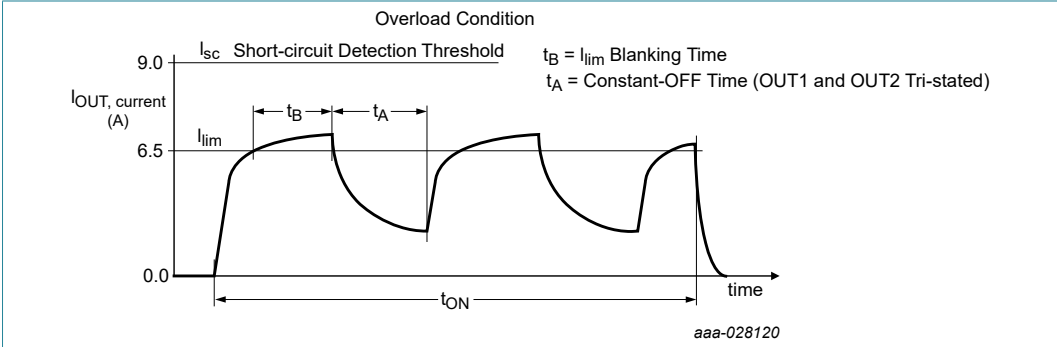

Figure 8. Current limit blanking time and constant-off time
- [8] Load currents ramping up to the current regulation threshold become limited at the I_{LIM} value (see Figure 8). The short-circuit currents possess a di/dt that ramps up to the I_{SC} or I_{SCL} threshold during the I_{LIM} blanking time, registering as a short-circuit event detection and causing the shutdown circuitry to force the output into an immediate tri-state latch-off (see Figure 9). Operation in current limit mode may cause junction temperatures to rise. Junction